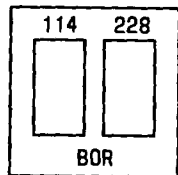

Fig. 1—J99343BL Switches
2.01 Initial settings may be found on the circuit layout record (CLR) for existing circuits. Prescription settings are provided in Part 4 for new circuits or existing circuits where settings are not available. For the J99343BL, the controls that must be adjusted are the build-out resistor (BOR) switches, the R potentiometer dial, and the 600/900 switch. The BOR switches, the R potentiometer, and the 600/900 switch are shown in Fig. 1.
2.02 The R potentiometer numerical graduations shown in Fig. 1 are not marked on the unit. The settings (1-7) must be estimated. The setting 0 is the maximum counterclockwise position, and the setting 8 is the maximum clockwise position.